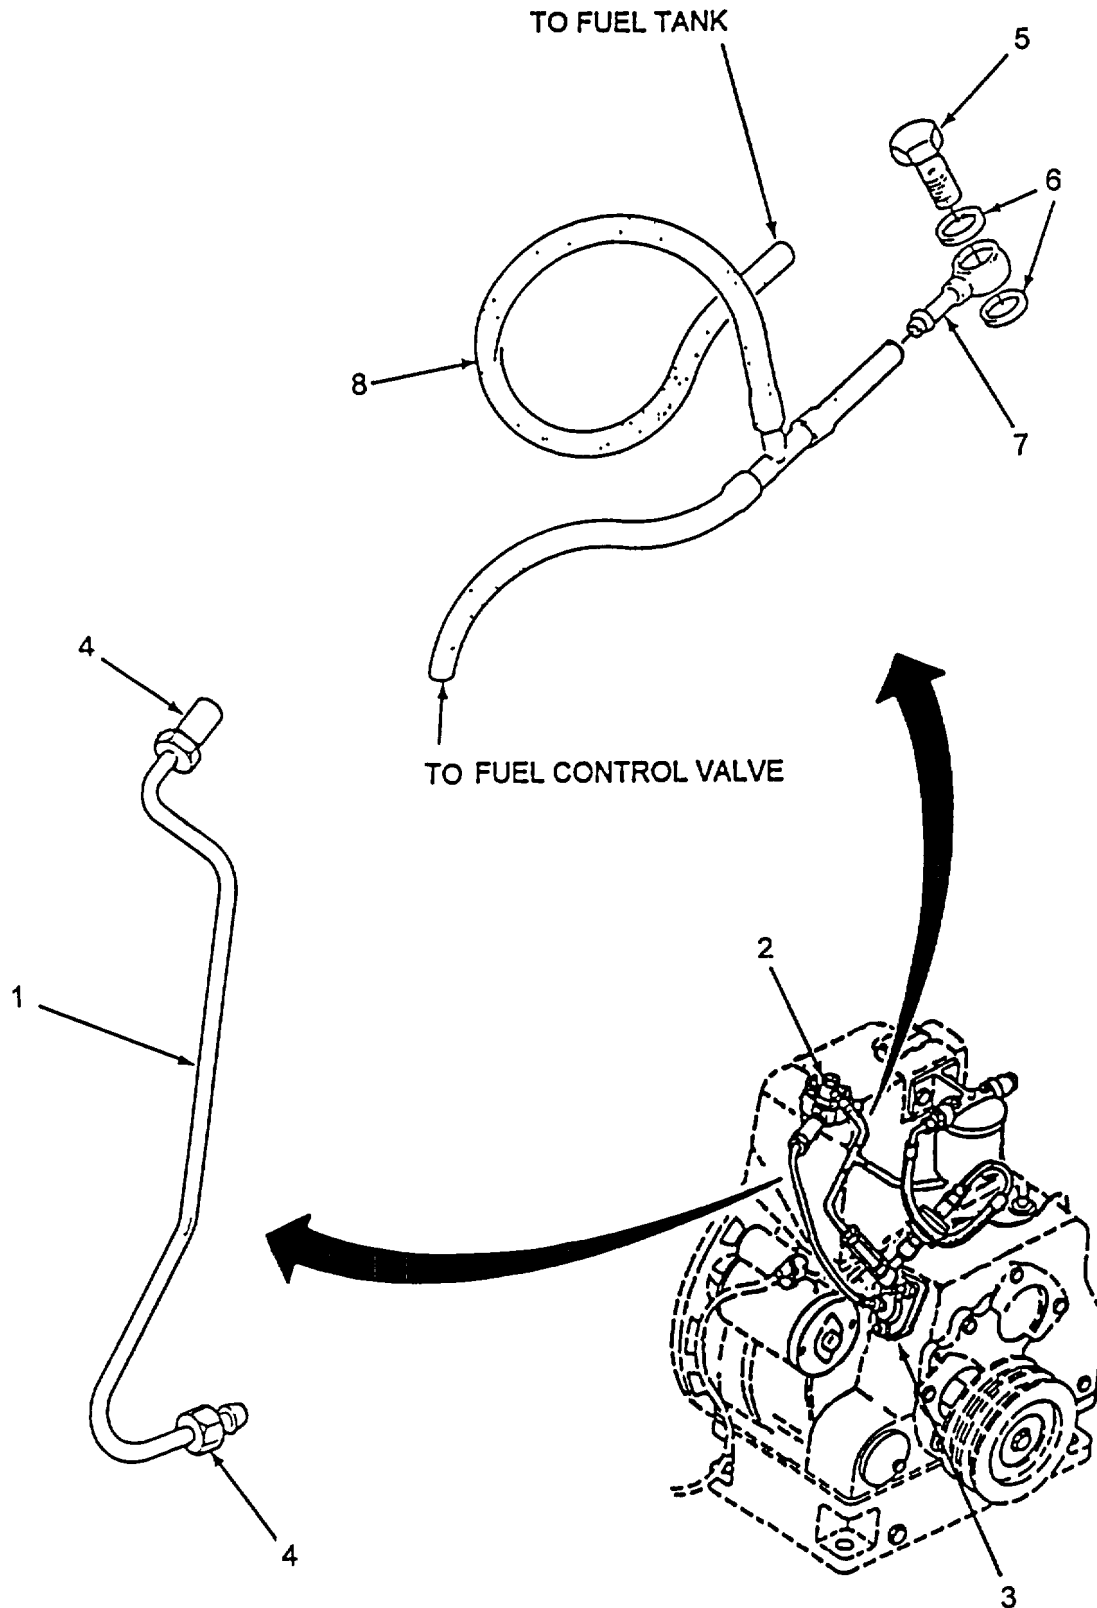

Figure 5-11. Fuel Pipe-Pump and Leak-Off Pipe
a. Fuel Pipe-Pump and Leak-Off Pipe.**(1) Removal. (Refer to Figure 5-11).**
- (a) Remove pump-to-injector fuel pipe (1) from fuel injector (2) and fuel pump (3) by removing fuel pipe nuts (4).
- (b) Remove bolt (5), two washers (6), swivel union (7) from top of fuel injector (2). Remove pipe assembly tube (8) from swivel union (7).
(2) Repair.